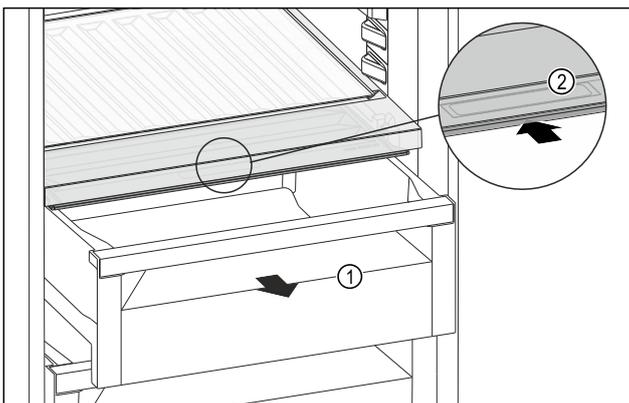

Fig. 129
- ▶ Pull out the drawer Fig. 129 (1).
- ▶ Grasp the recessed grip Fig. 129 (2) on the compartment lid and push the compartment lid backwards at the same time.